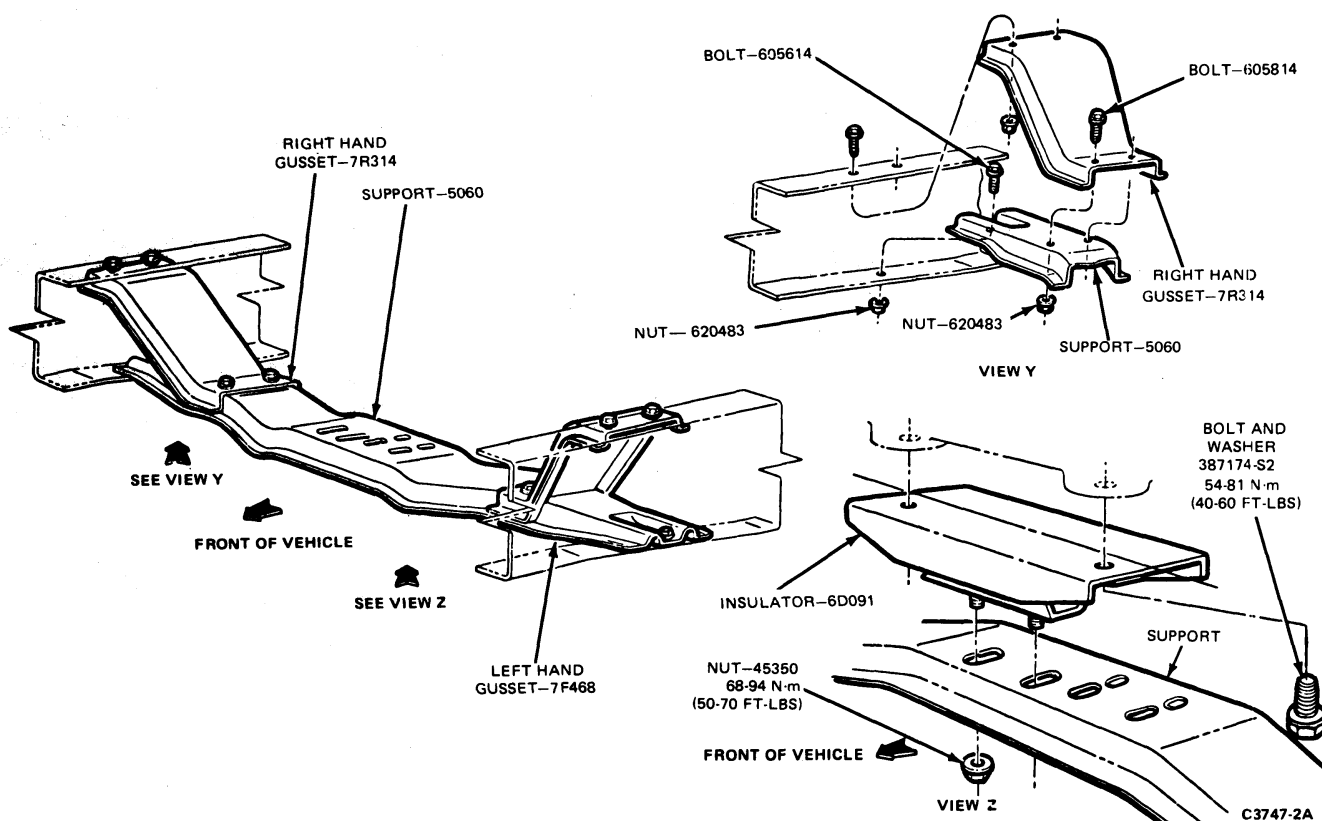

FIG. 4 Transmission Rear Support—F-100—F-350
7. Raise the rear of the engine high enough to remove the weight from the crossmember. Remove the bolts retaining the crossmember to the frame side supports and remove the crossmember (Fig. 4).
3. Raise the rear of the engine and install the crossmember (Fig. 4). Install and torque the crossmember attaching bolts to specifications, then lower the engine.